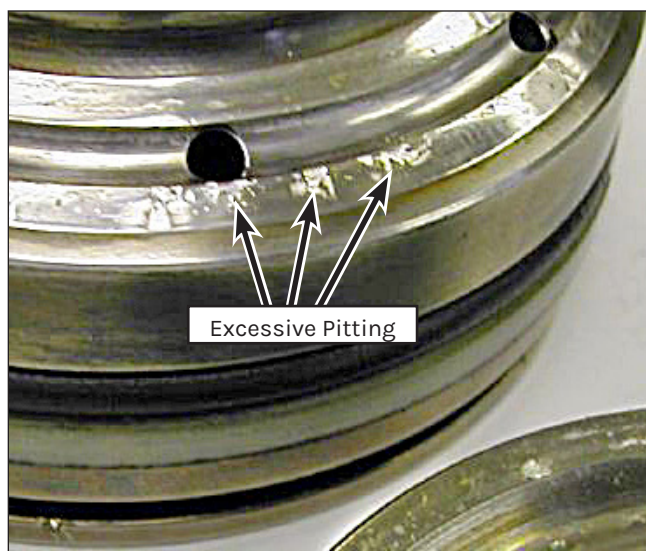

Figure 127: Valve Pitting.
2. Inspect the valve components. Discard excessively pitted or otherwise damaged components (Figure 127).